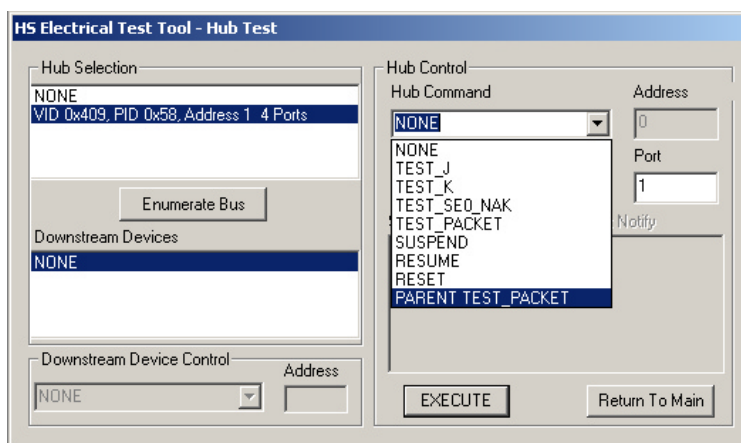

Figure 15. Placing Parent Port in TEST_PACKET
6. Select PARENT PORT TEST_PACKET from the Hub Command drop down menu and click [EXECUTE]. This forces the parent port in which the hub is connected to continuously put out test packets. The hub port under test repeats these test packets and is ready for signal quality and jitter tests. (Figure 15)